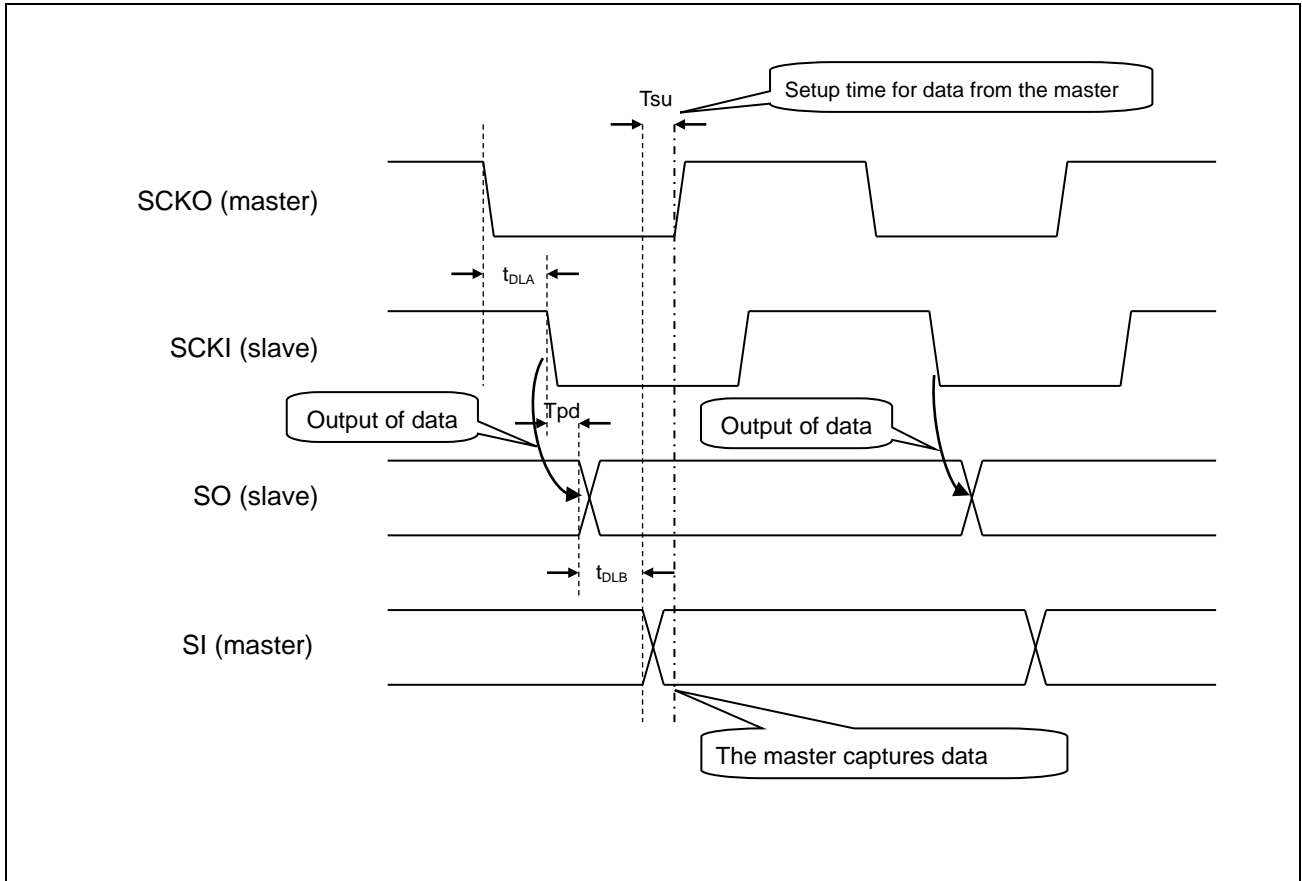

Figure 30.6-2 Timing of Data Reception by the Master
**Figure 30.6-2** shows the timing of data reception by the master.